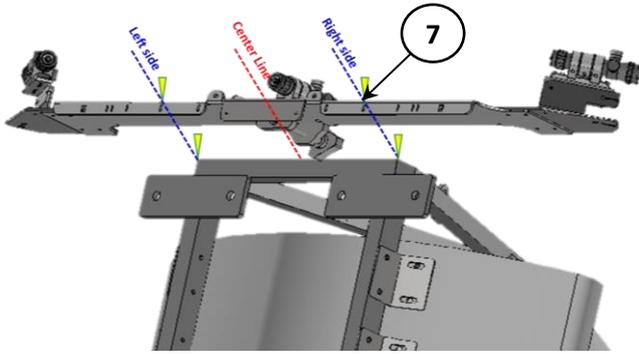

Figure 12: SLP Mounting
Step 7: Mount base plate flat on top of frame, align with edge marker. (Figure 12.)